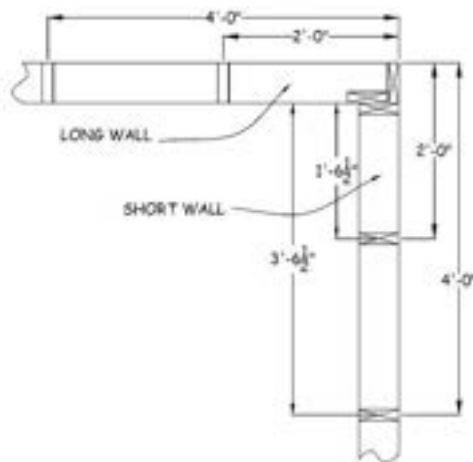

Figure 3-4. Corner Layout.
4. For plates on the long walls, the studs are placed on 2' centers from the outside of the zero corner. Therefore, plates on the short walls will be cut $5\frac{1}{2}$ " shorter than that to place their ends inside the long wall plates (see Figure 3-4).